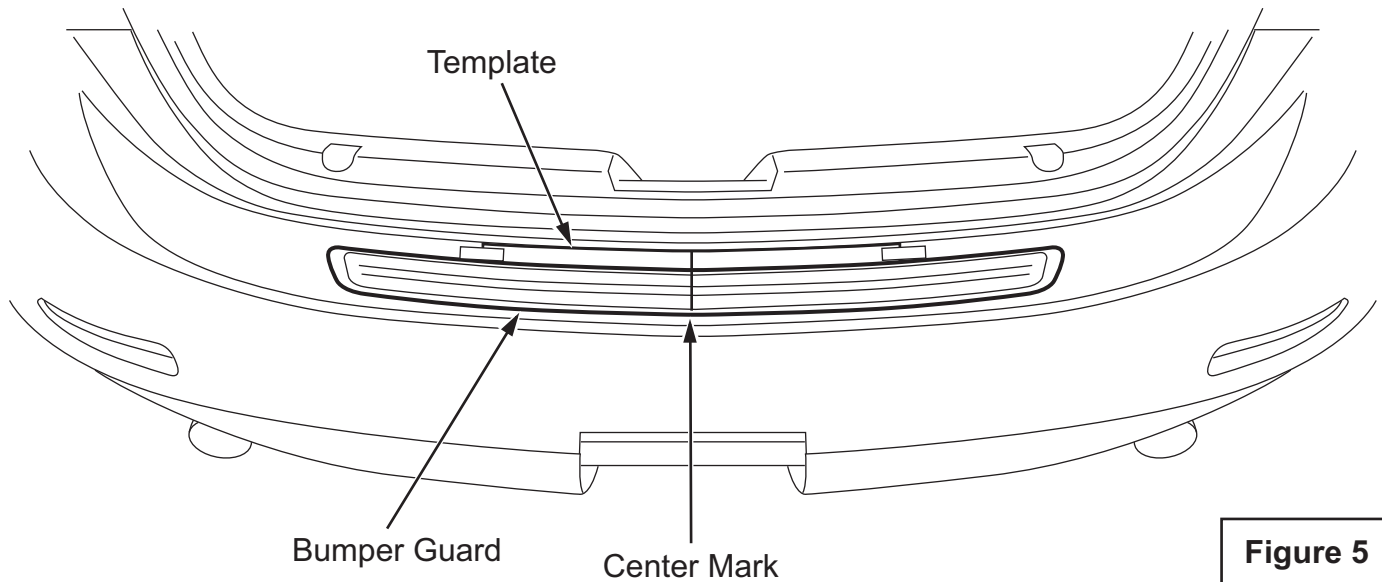

Figure 5
- A. Carefully align the Bumper Guard along the edge of the Cardboard Template. Be sure to align the center mark on the top of the Guard with the center mark on the Template and press down flat into position (Figure 5).